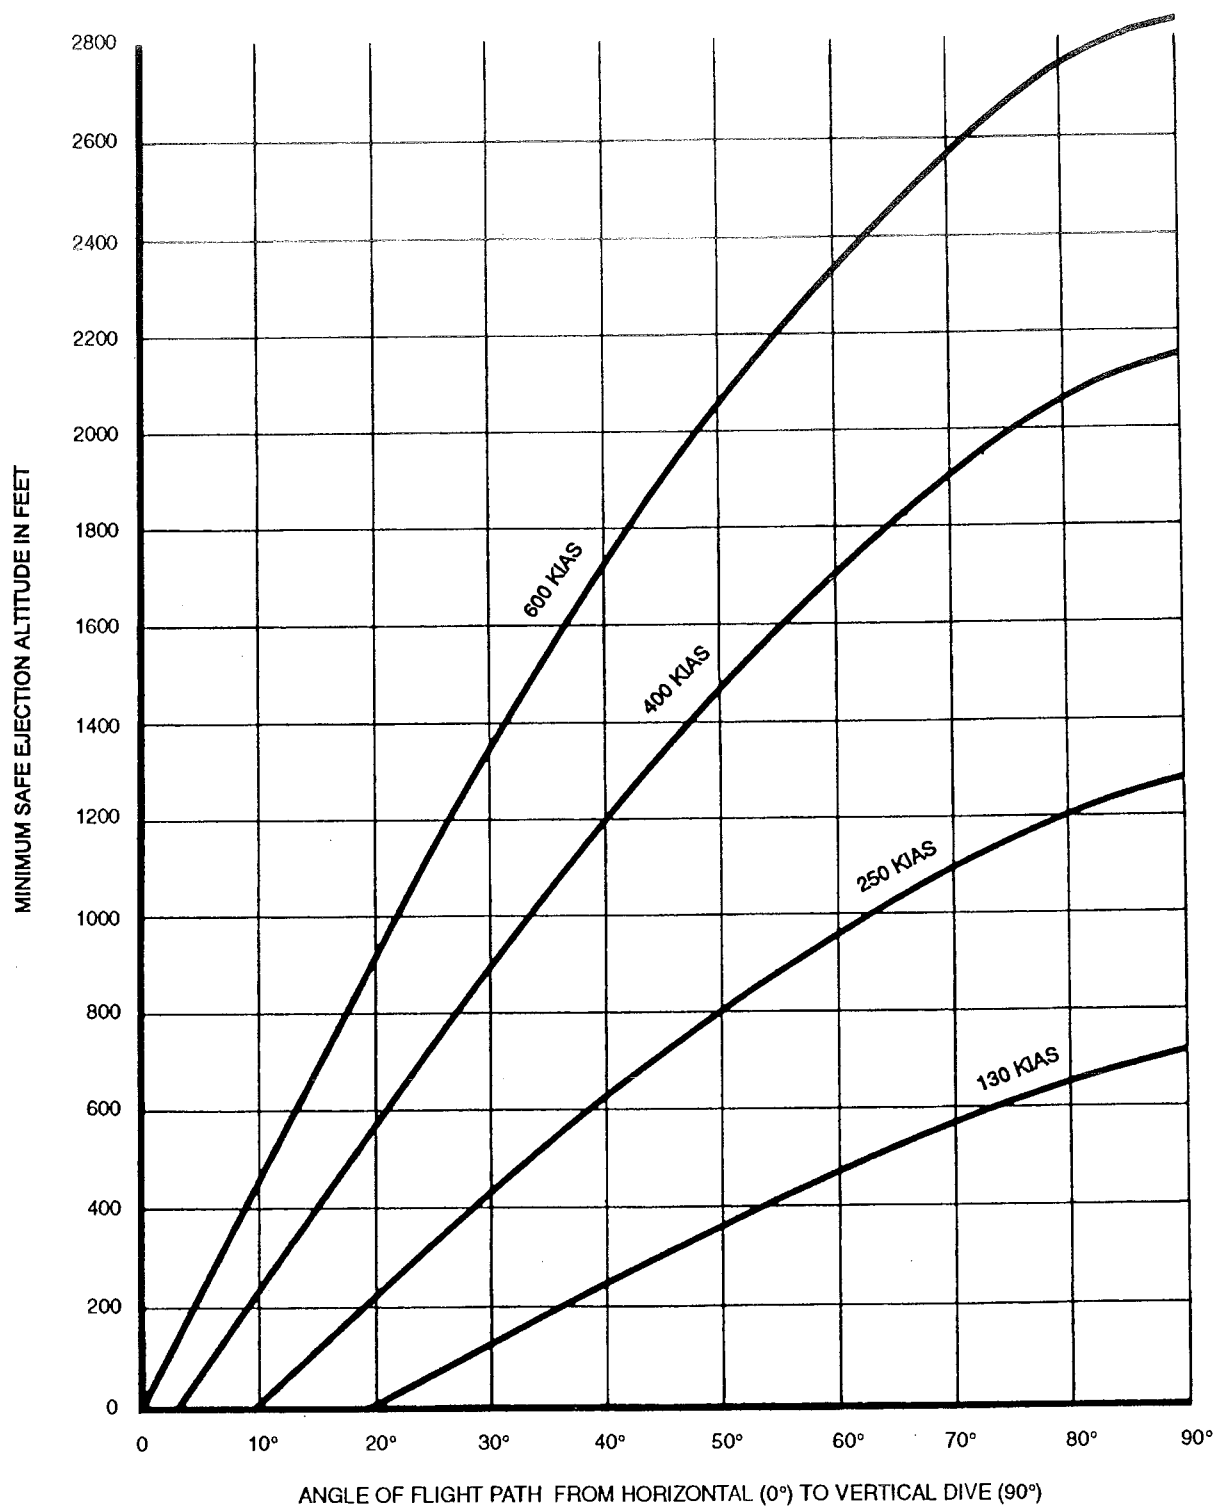

Figure 3-4
Minimum safe ejection altitudes at various degrees of dive angles are shown in Figure 3-4.
- FIGURE 3-4 DOES NOT PROVIDE ANY SAFETY FACTOR FOR PILOT REACTION TIME, EQUIPMENT MALFUNCTION, DELAY IN SEAT SEPARATION, BANK ANGLE, HIGH SINK RATE, ETC., AND SHOULD NOT BE USED AS A BASIS FOR DELAYING EJECTION BELOW 2000 FEET ABOVE THE TERRAIN. ACCIDENT STATISTICS EMPHATICALLY SHOW A PROGRESSIVE DECREASE IN SUCCESSFUL EJECTIONS AS ALTITUDES DECREASE BELOW 2000 FEET.